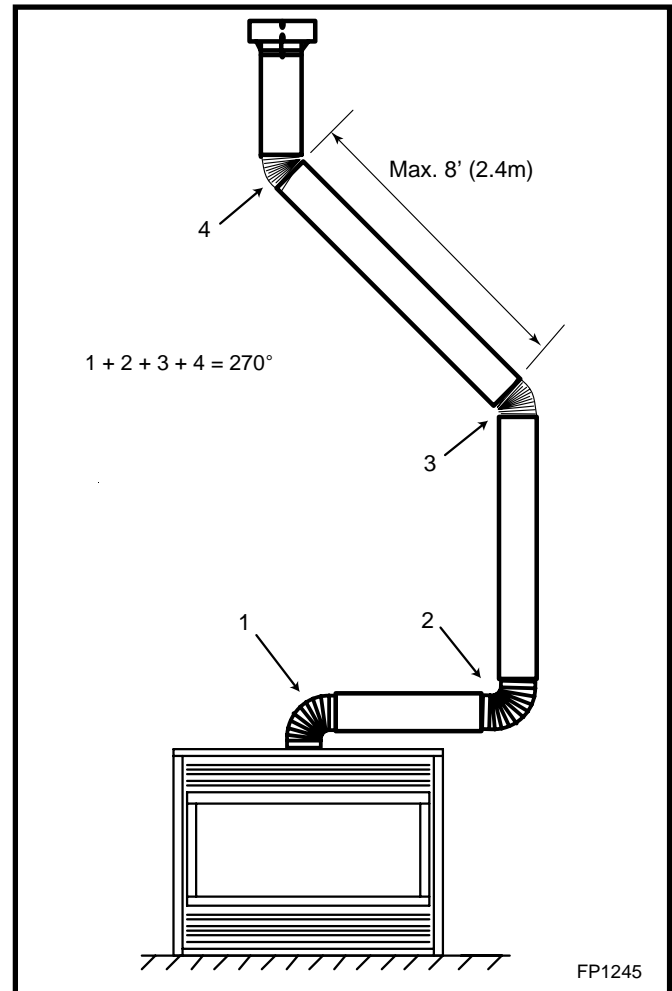

Fig. 26 Typical offset application.
- Two sets of 45° elbows offsets within these vertical installations. From 0 to a maximum of 8' (2.4m) of vent pipe can be used between elbows. (Fig. 26)